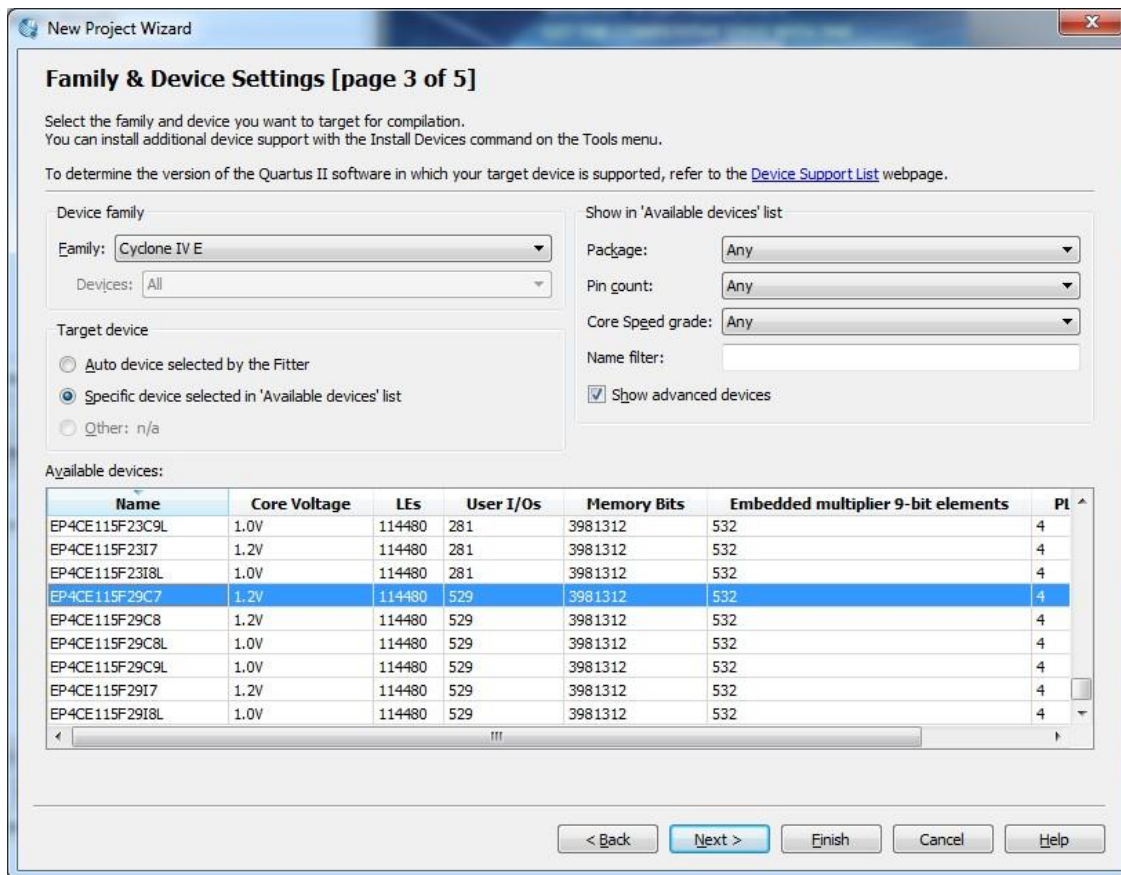

Figure 6: Choose the device family and a specific device
- i) The wizard makes it easy to specify which existing files (if any) should be included in the project. Assuming that we do not have any existing files, click **Next**, which leads to the window in Figure 6.